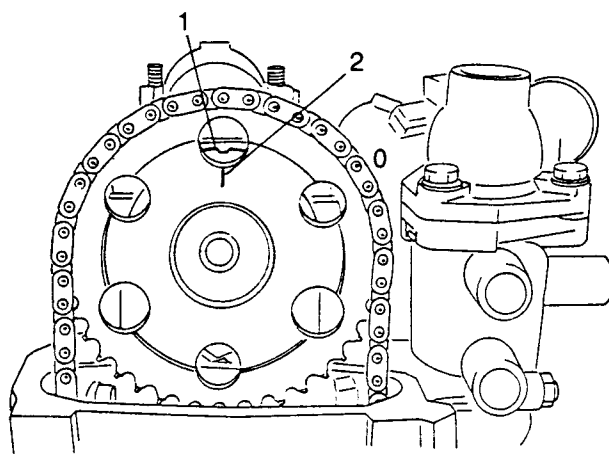

Fig B4.47
- (10) Refer to Fig B4.47. Temporarily fit the sprocket to the camshaft and turn the sprocket until the timing mark (1) on the sprocket aligns with the mark (2) on the carrier. Remove the sprocket.